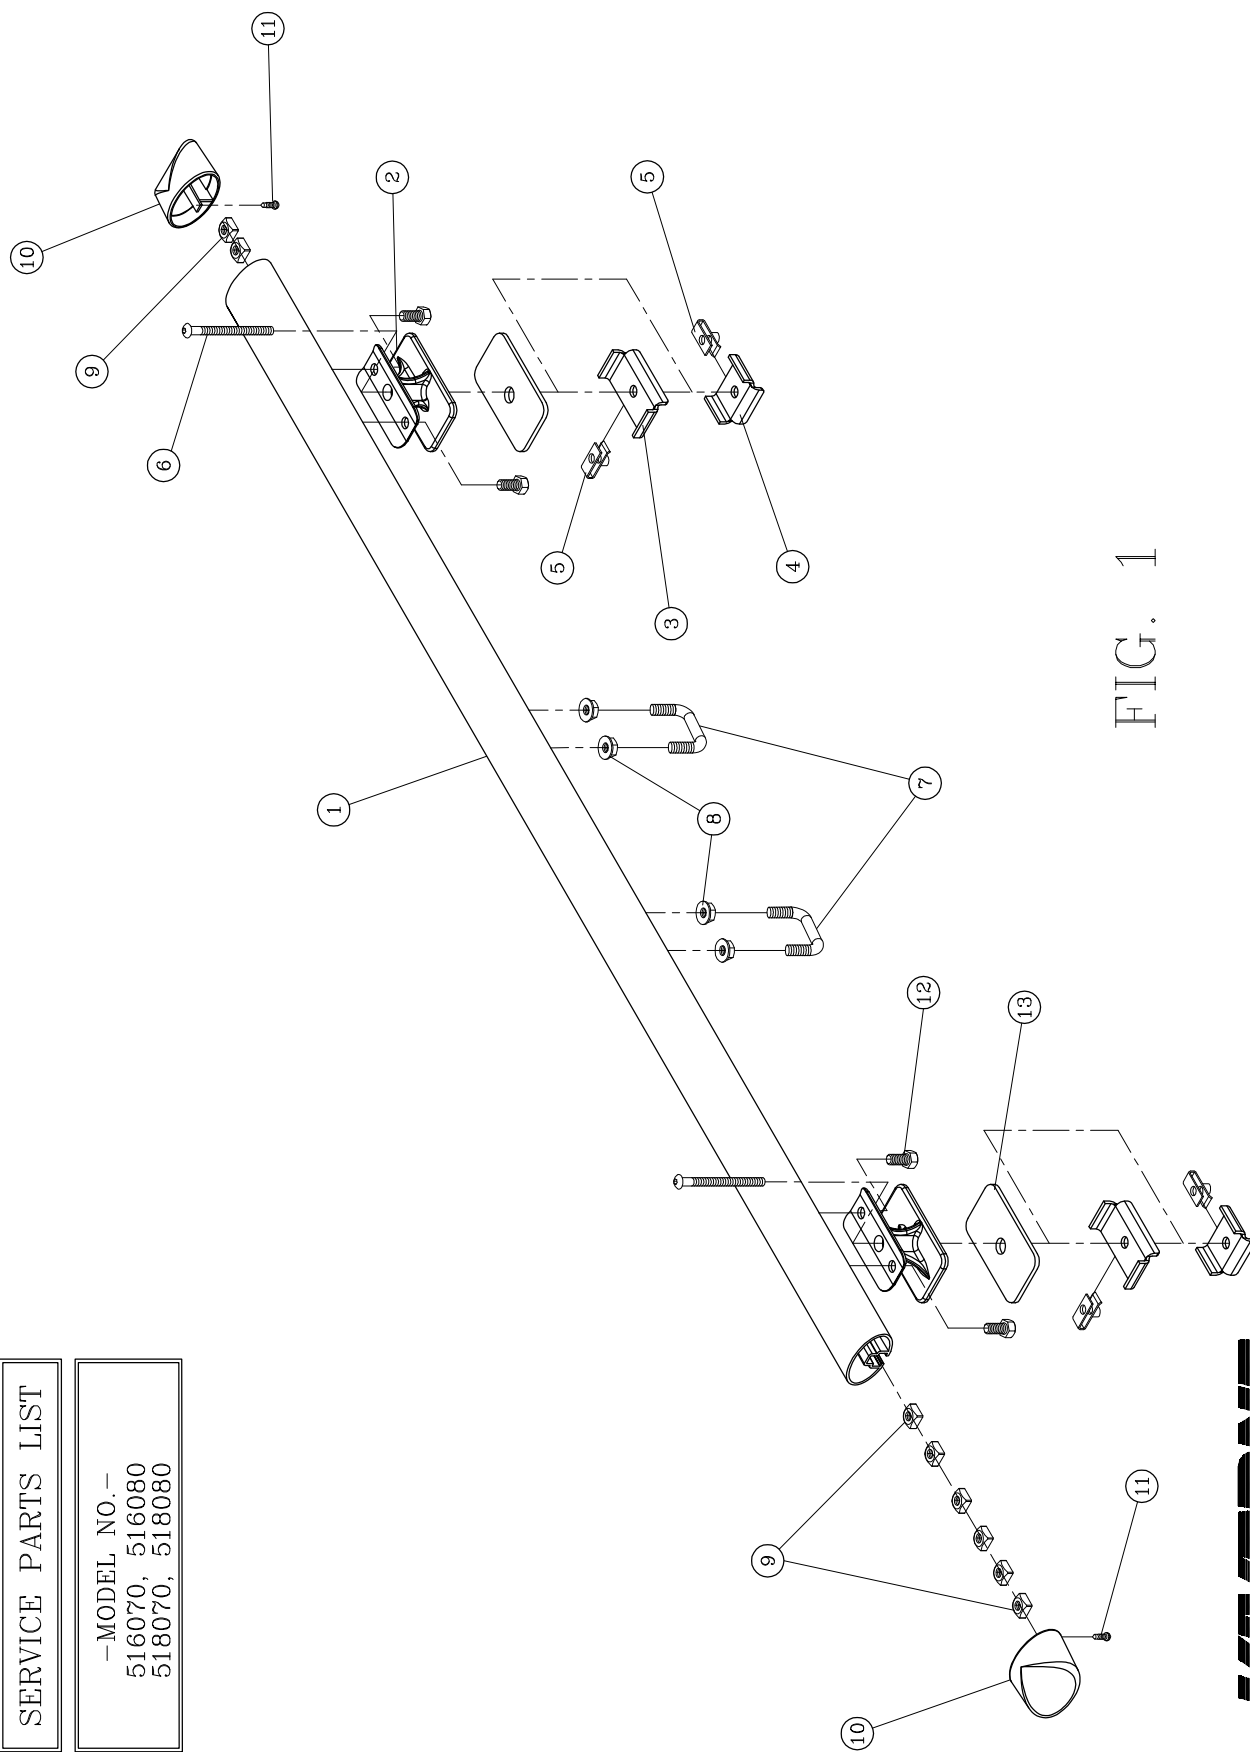

FIG. 1
1. Read instructions completely and check to make sure that all required parts are on hand before starting the installation. See **fig. 1**